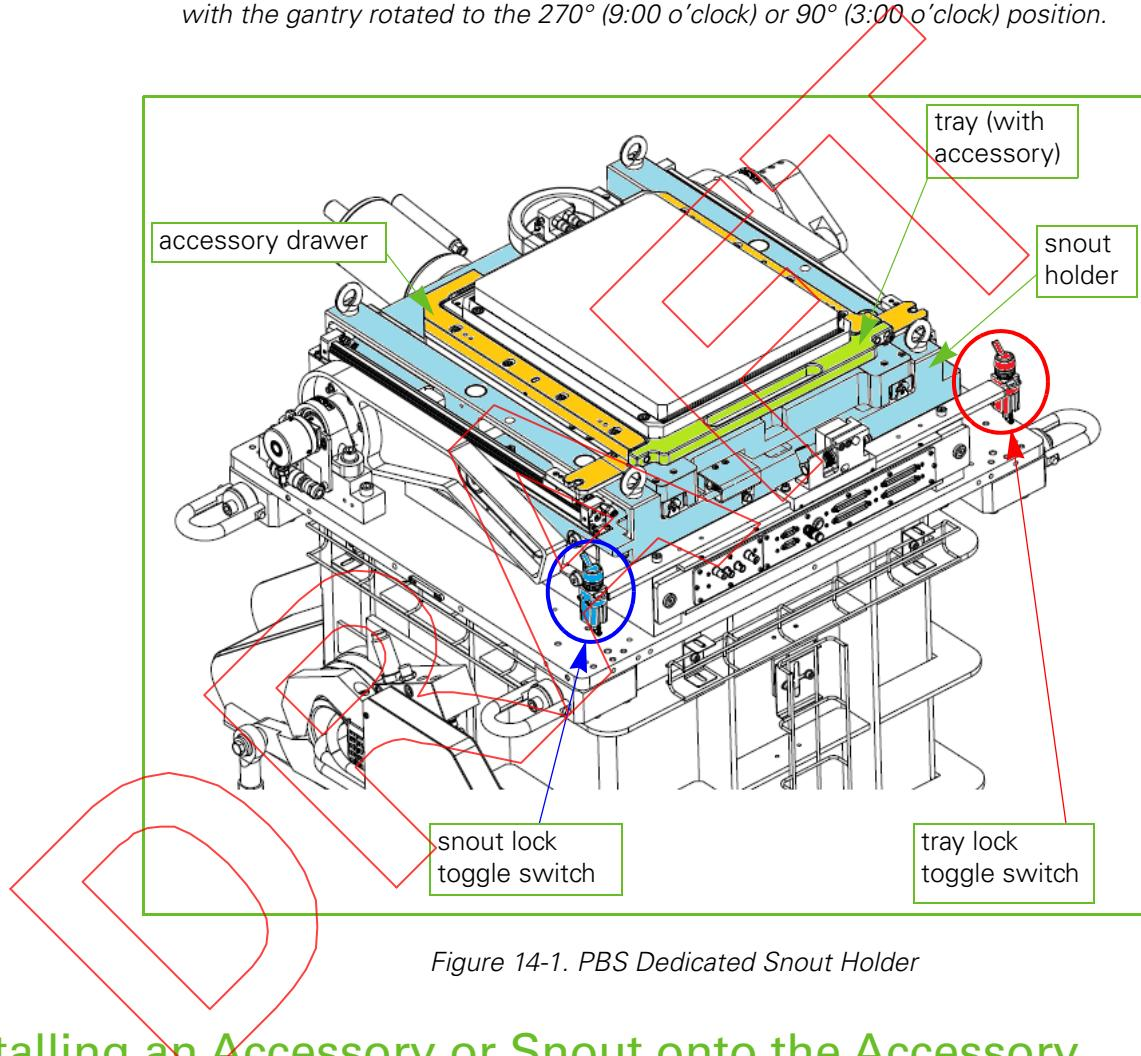

Figure 14-1. PBS Dedicated Snout Holder
The accessory drawer is mounted onto the snout holder, which in itself is mounted at the exit of the PBS Dedicated Nozzle (see Figure 14-1). The snout holder is able to move the accessory drawer towards or away from the isocenter.
1. Make sure that the tray toggle switch is in the **Unlocked** position (see Figure 14-1), i.e., up.
1. Pull the tray lock toggle switch up to the **Unlocked** position (see Figure 14-1).